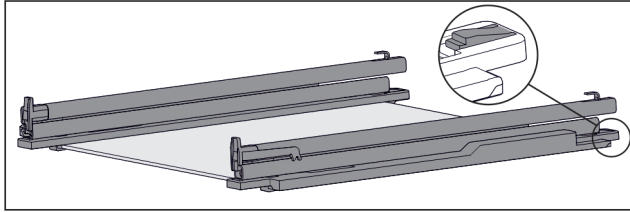

Fig. 123 Glass shelf with rails and retaining parts
- ▶ Press down retaining part at the rear (see Fig. 123) and simultaneously push rail back.